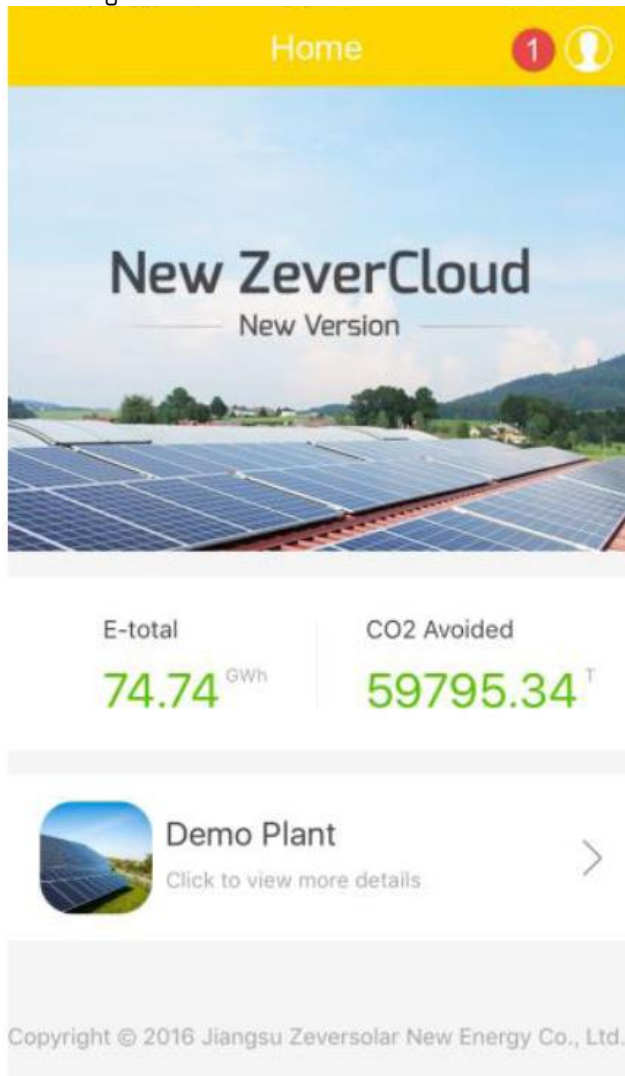
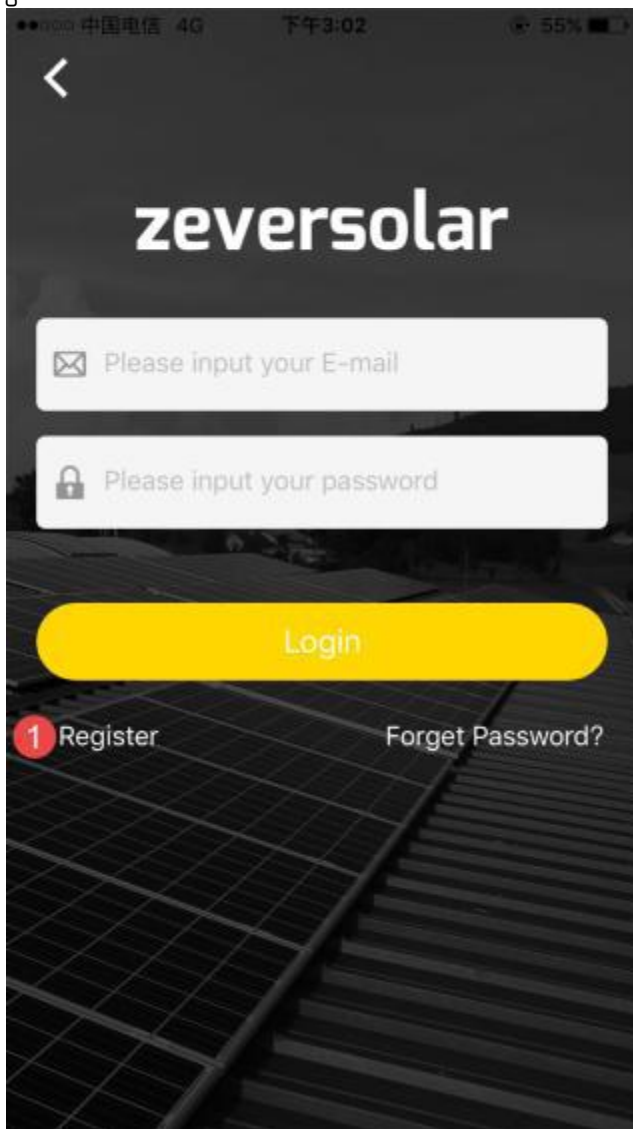

Fig. 7-3: Home Page
Fig. 7-4: Login
Step 1: Open ZeverCloud APP which has been downloaded and installed on your device, as shown in fig. 7-3.
Step 2: Click the button marked with a '1' in Fig. 7-3 to enter the login page, as shown in Fig. 7-4
Step 3: Click the button marked with a '1' in Fig. 7-4, click 'Register' to enter the registration page, input the available e-mail address and login password
Step 1: Open ZeeverCloud APP which has been downloaded and installed already, as shown in Fig. 7-3
Step 2: Click the button marked with a '1' in Fig.7-3 to enter the login page, as shown in Fig.7-4
Step 3: Input your user name and password in the area as shown in Fig.7-4 to login to ZeeverCloud APP. If the login is successful you will enter the page with a PV plant list as shown in Fig.7-6 (prompt: if you have not created, nor being shared with any PV plant, the PV plant list will be blank).